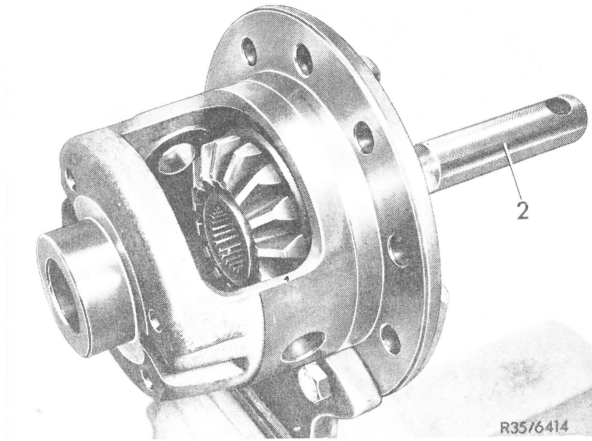

Fig. 7
- 8** Remove lefthand side gear together with friction plates (Fig. 7).